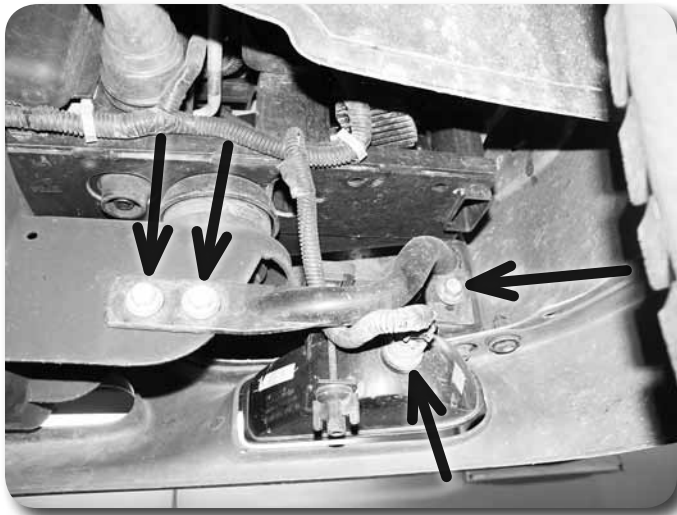

Figure 8
11. If equipped, disconnect the fog light wires from the light housings mounted in the front bumper Figure 8.
12. Remove the bolt (on each side) mounting the outside bumper support to the bumper. Remove the bolts mounting the support to the frame and remove the bumper Figure 8. Save the supports and hardware.